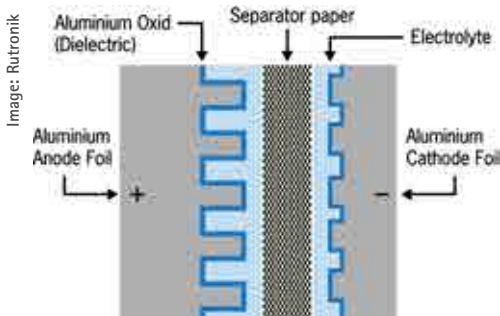

Figure 1: An electrolytic capacitor essentially consists of an anode and cathode film, separator paper, and electrolytes.
**E**lectrolytic and polymer hybrid capacitors have an almost identical design: they consist of a cathode side and an anode side, which in turn are both made of aluminum film. The film for the anode is subjected to an oxidation process, which creates an aluminum oxide layer forming the dielectric. Both films are rolled up with separator paper to form a winding element (Figure 1, Figure 2).